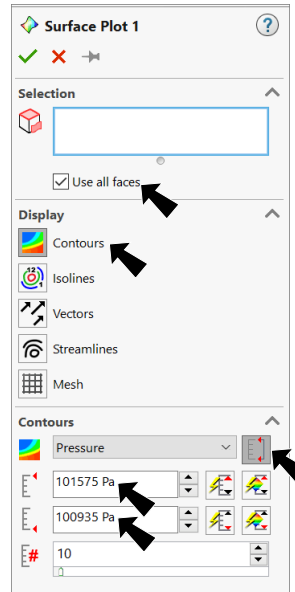

Fig. 18
- under Selection, **Fig. 18** check **Use all faces**